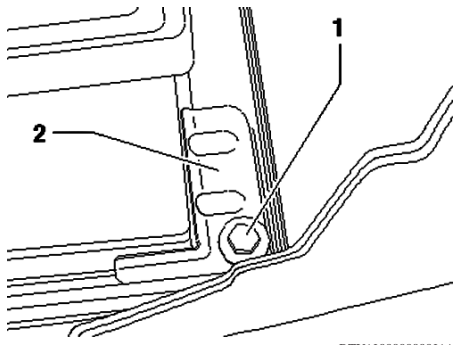

Fig. 4 Battery hold down removal
9. Remove battery mounting bolt (1), **Fig. 4**.
10. Remove battery hold down (2), **Fig. 4**.
2. Install battery hold down (2), **Fig. 4**.
3. Install battery mounting bolt (1), and **torque** to 25 ft. lbs., **Fig. 4**.